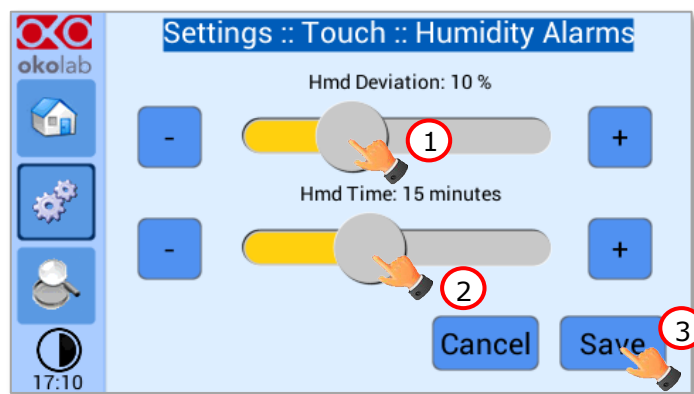

Figure 33. How to set the Deviation and Time Alarm.
2. Insert the *Humidity Deviation* by scrolling the bar (1 in Figure 33) or pressing the +/- icons.
3. Insert the *Humidity Time* by scrolling the bar (2 in Figure 33) or pressing the +/- icons.
4. Press *Save* (3 in Figure 33) to confirm.
In Figure 33 the following settings are displayed as an example (valid only after the system has reached its stationary state). If the *Humidity Deviation* from Setpoint is 10% or greater (i.e. if Setpoint Relative Humidity is 80% and the composition reaches a value equal or less than 70% or equal or more than 90%) for a period of time equal or longer than 15 minutes (*Humidity Time* set in this example) then the system triggers an Alarm.